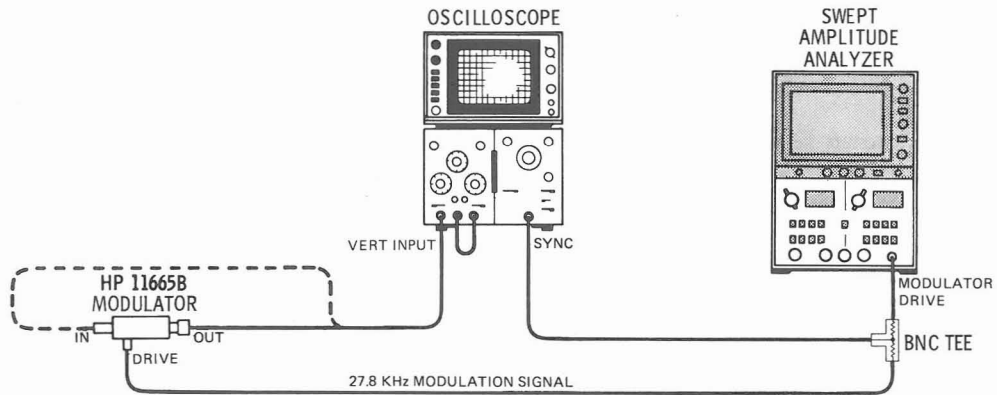

Figure 4-1. Modulation Drive Feedthru Test Setup
1. Connect the equipment as shown in Figure 4-1 with the Oscilloscope connected to the OUT terminal of the 11665B under test. Set 1802A for maximum cascaded gain (DISPLAY B, SYNC SOURCE A if input is to CHANNEL A).